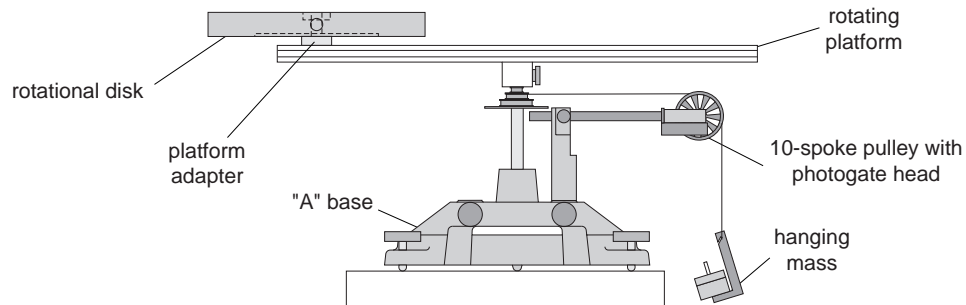

Figure 6.2: Set-up for Disk Off-Axis
- ① Set up the Rotational Accessory as shown in Figure 6.2. Mount the disk with its bearing side up. Use the platform adapter to fasten the disk to the track at a large radius.